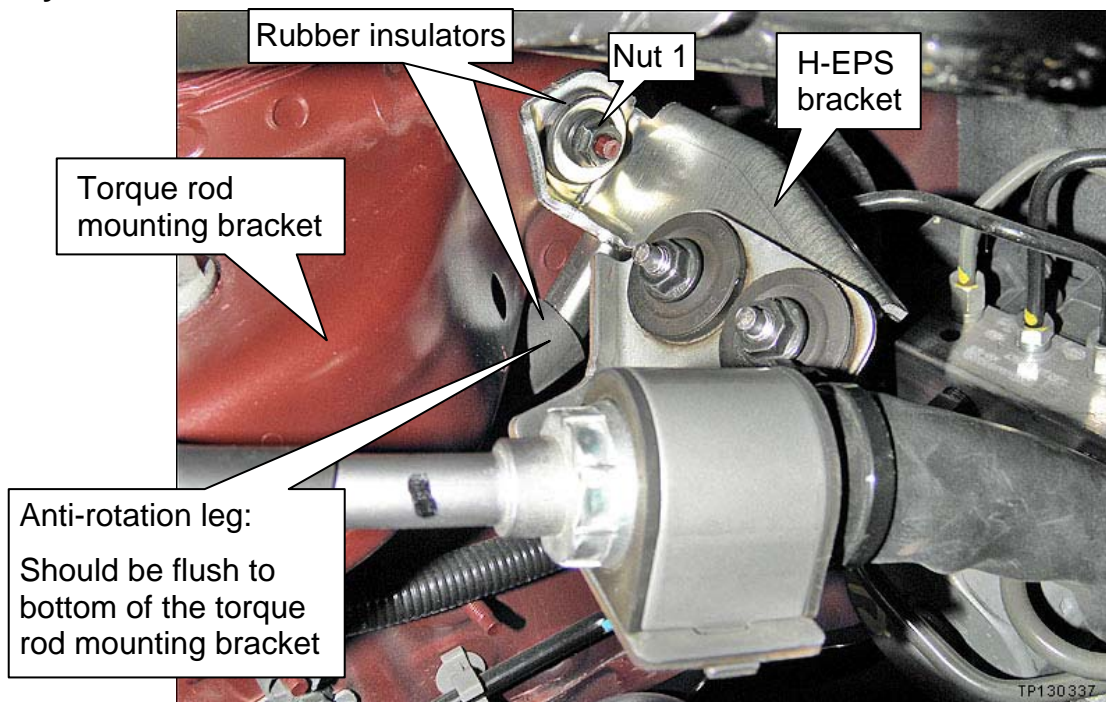

Figure 18
- 5b. Make sure the anti-rotation leg of H-EPS bracket is flush to the bottom of the torque rod mounting bracket (see Figure 18).